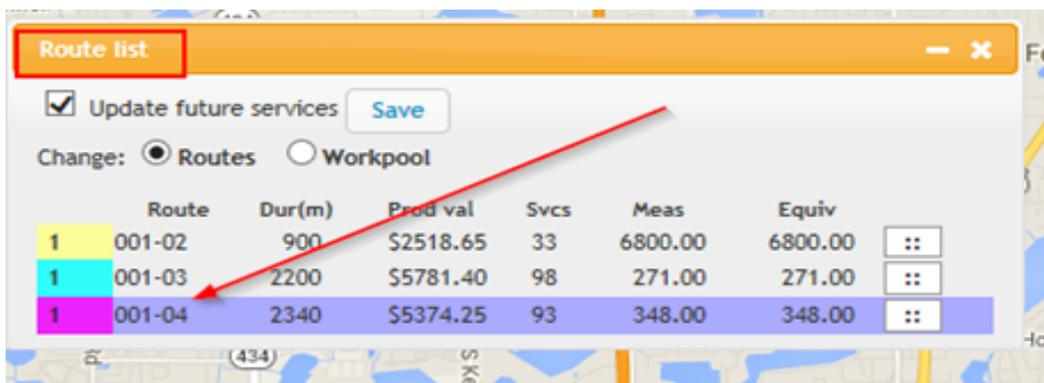

Figure 6
1. To change an account(s) from one route to another, select the route you want to move the services to on the “Route List” (Fig. 6) located on the left of the screen.
3. Check update future services and click “save” to save these changes (under file or above the route list on the left hand side below the orange bar) (Fig. 6).